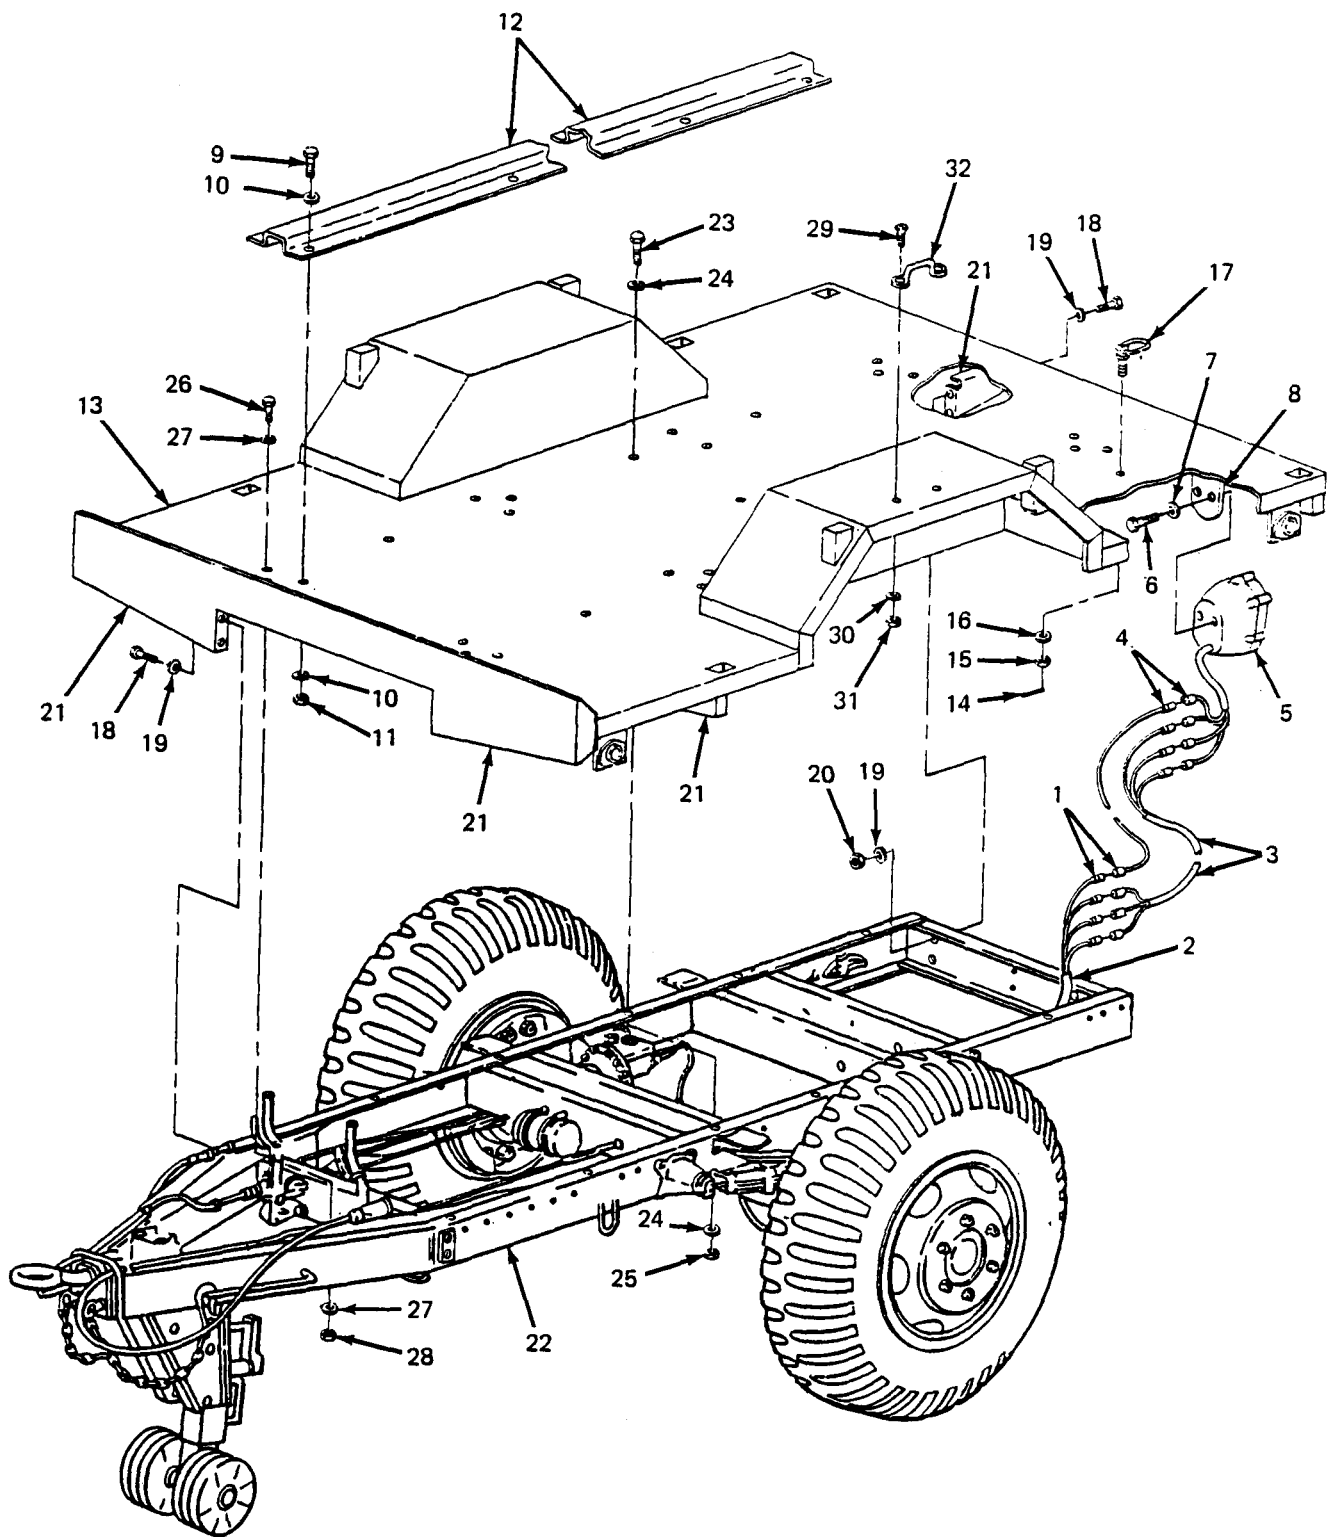

Figure 5-3. Fender and Bed Replacement.
**5-3. Trailer Bed and Fenders Repair and Replacement.** (See figure 5-3.) The body of the modified trailer consists of a single weldment that includes both fenders and the bed of the trailer.
- (1) Remove fitted cover (paragraph 3-11, a.(1)).